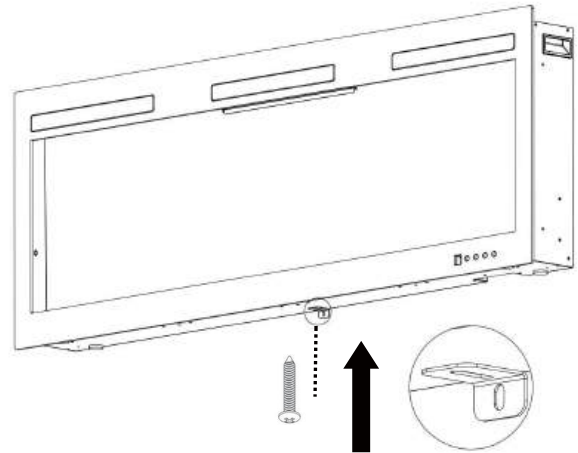

Fig 4-2
B. Using the screw previously removed, attached the L-bracket (supplied) to the bottom of the fireplace box. (**Fig 4-2**)